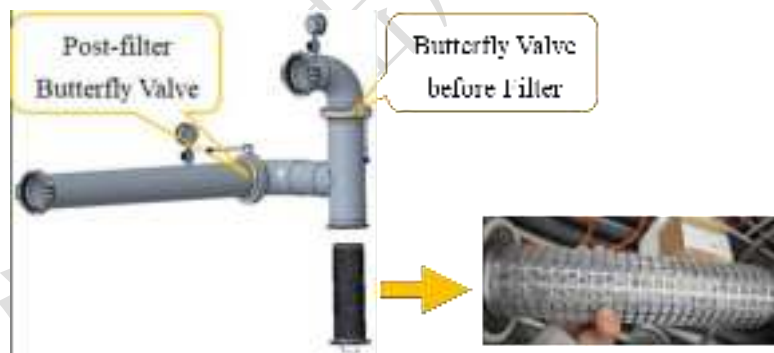

Figure 9.2 Schematic diagram of pipeline filter removal and cleaning
- d) Remove and clean (or replace) the filter screen inside the filter, refer to Figure 9.2.